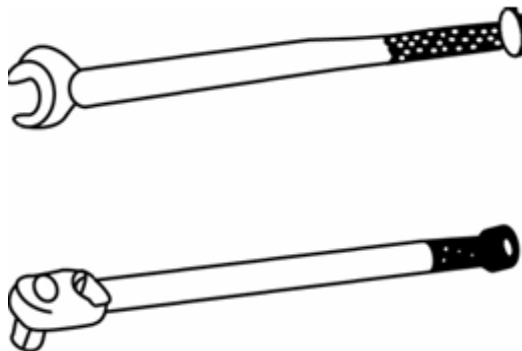

Fig. 4-30 Torque wrench
- Tighten the rocker bracket bolts with the torque wrench to 60-77Nm (as shown in fig. 4-30). After the bolts are tightened in place, seal the bolt positions by using paining marker.